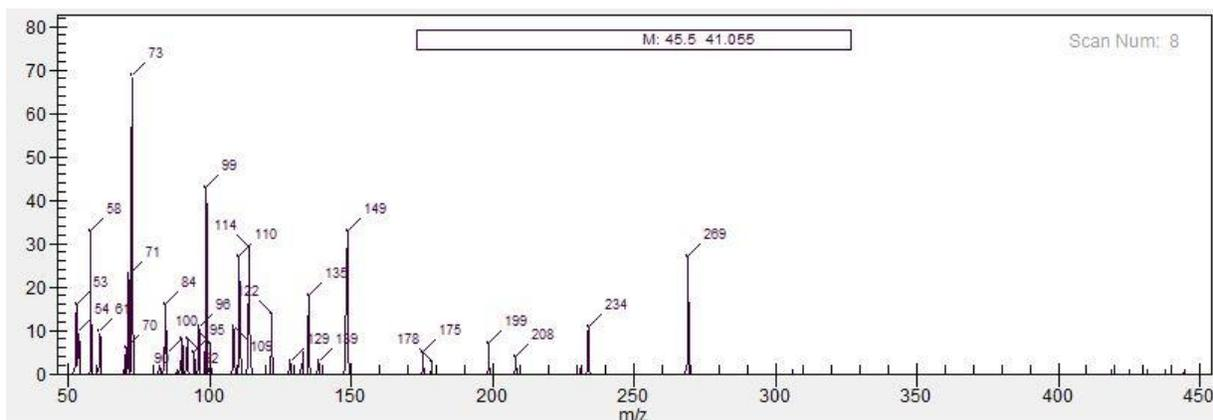

Figure 2.16 – Sample blank APCI mass spectrum
8. Correct positioning will typically produce spectra featuring a low to moderate intensity peak at m/z 73 originating from a protonated water trimer (Figure 2.16). However, additional peaks may be present and intensities may vary greatly depending upon the local humidity and presence of any additional substances in the ambient air.